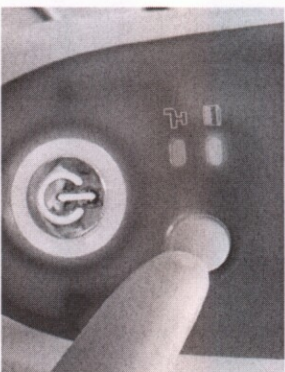

Figure 12
2. Select the water source by pressing the white button on the front panel. When the  icon lights up, the water source is from the water tank (Figure 12).